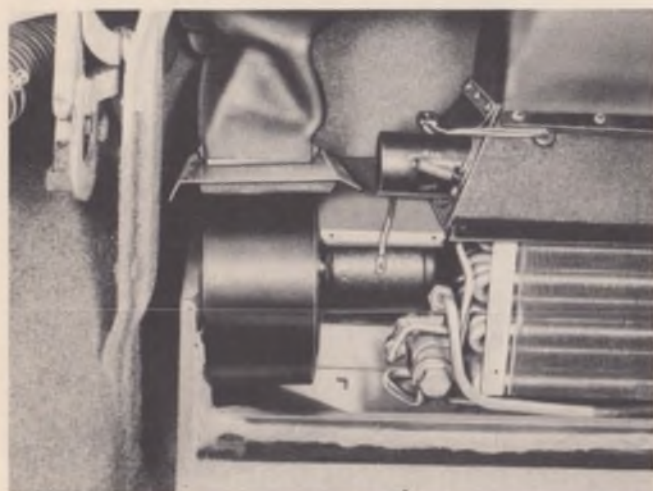

Fig. 24
3. Remove the screws which hold the blower assembly to the evaporator housing and lift it partially out of the housing. See figure 24. This will permit access to the rubber air duct retaining plate screws.